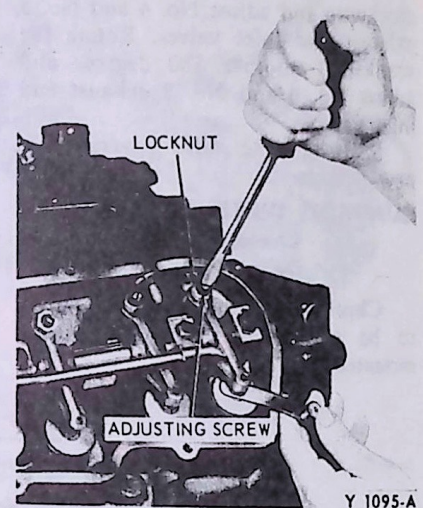

FIG. 37 Adjusting Valve Lash
3. Loosen the valve adjusting screw lock nuts. Use a standard feeler gauge and adjust the valve rocker arm to valve stem clearance to 0.025 in. for exhaust valves and 0.015 in. for inlet valves (Fig. 37). Tighten the adjusting screw lock nuts. Check the adjustment clearance.